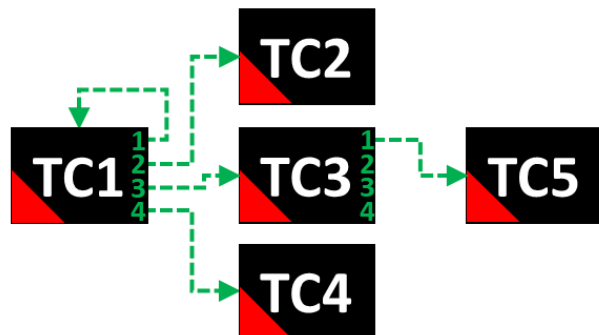

Figure 25: Three-level layout configuration corresponding to the "layout" example specified to the left.
- "wire_latency": Expected latency in picoseconds of the wire connecting the device to its master (green wires on the Figure 24 and Figure 25). The latency is around 30 picoseconds per 1cm of wire length.
The configuration below (Figure 25) defines an example three-level layout.